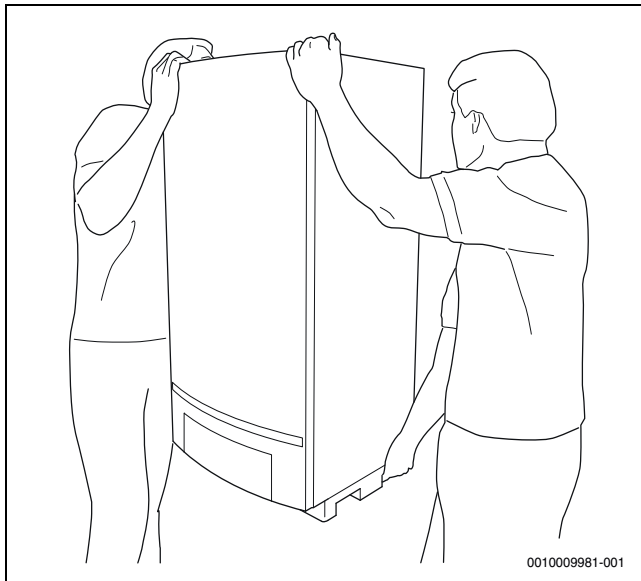

Fig. 9 Lifting and carrying the gas condensing boiler correctly
- ▶ Only hold the wall mounted gas condensing boiler at the sides and not at the control panel or flue connection (→ figure 9).